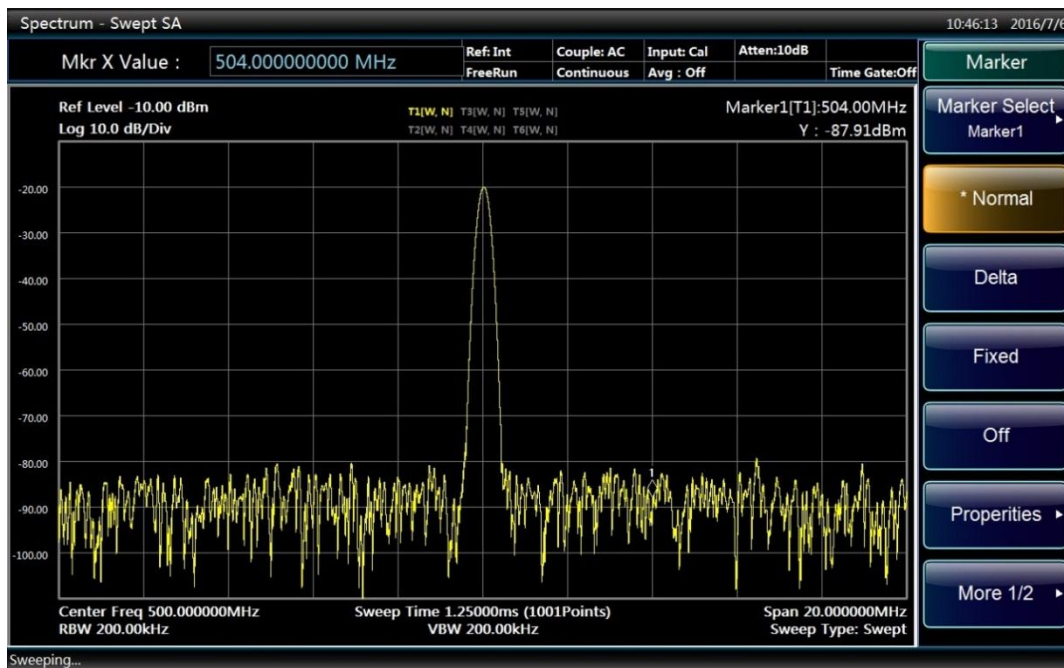

Fig. 3.4 Marker moving interface
- Click and drag the marker with the mouse or use the knob or the arrow keys to move the marker to other places. Current position of the marker is indicated with a white diamond box as shown in Fig. 3.4.